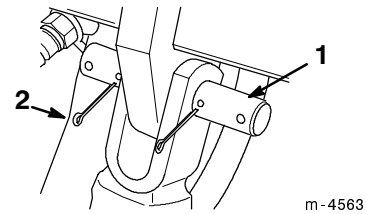

Figure 6
5. Install the new pin into position and secure it with two cotter pins (Fig. 6).